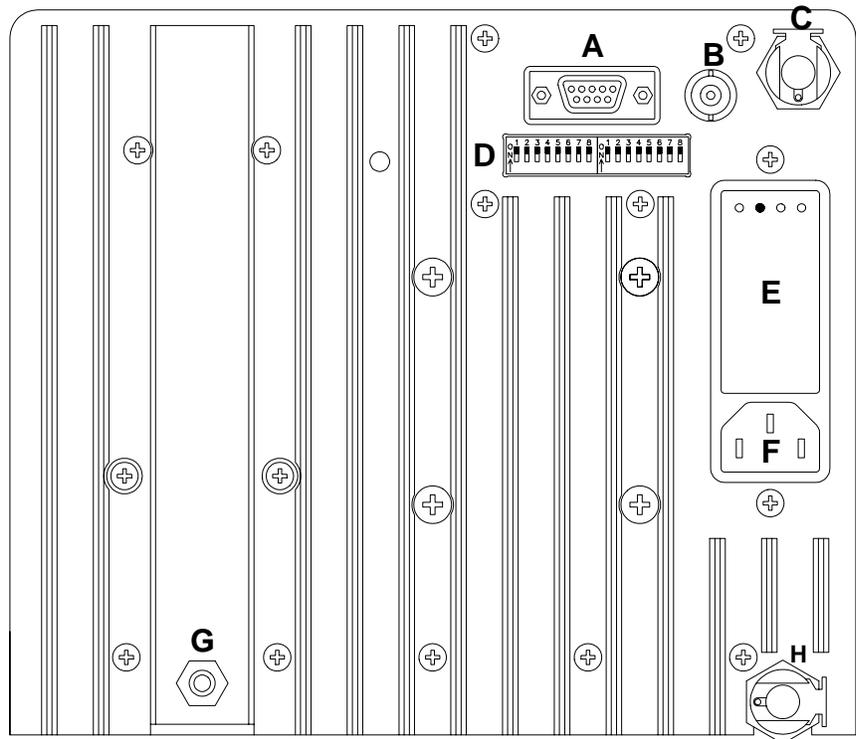

Figure 3-3
Figure 3-3 shows the back panel of the CPC. Back panel features include the COM port (A), BNC output (B), liquid fill connector (C), DIP switches (D), fuse panel (E), power cord inlet (F), vacuum connector (G), and liquid drain connector (H).